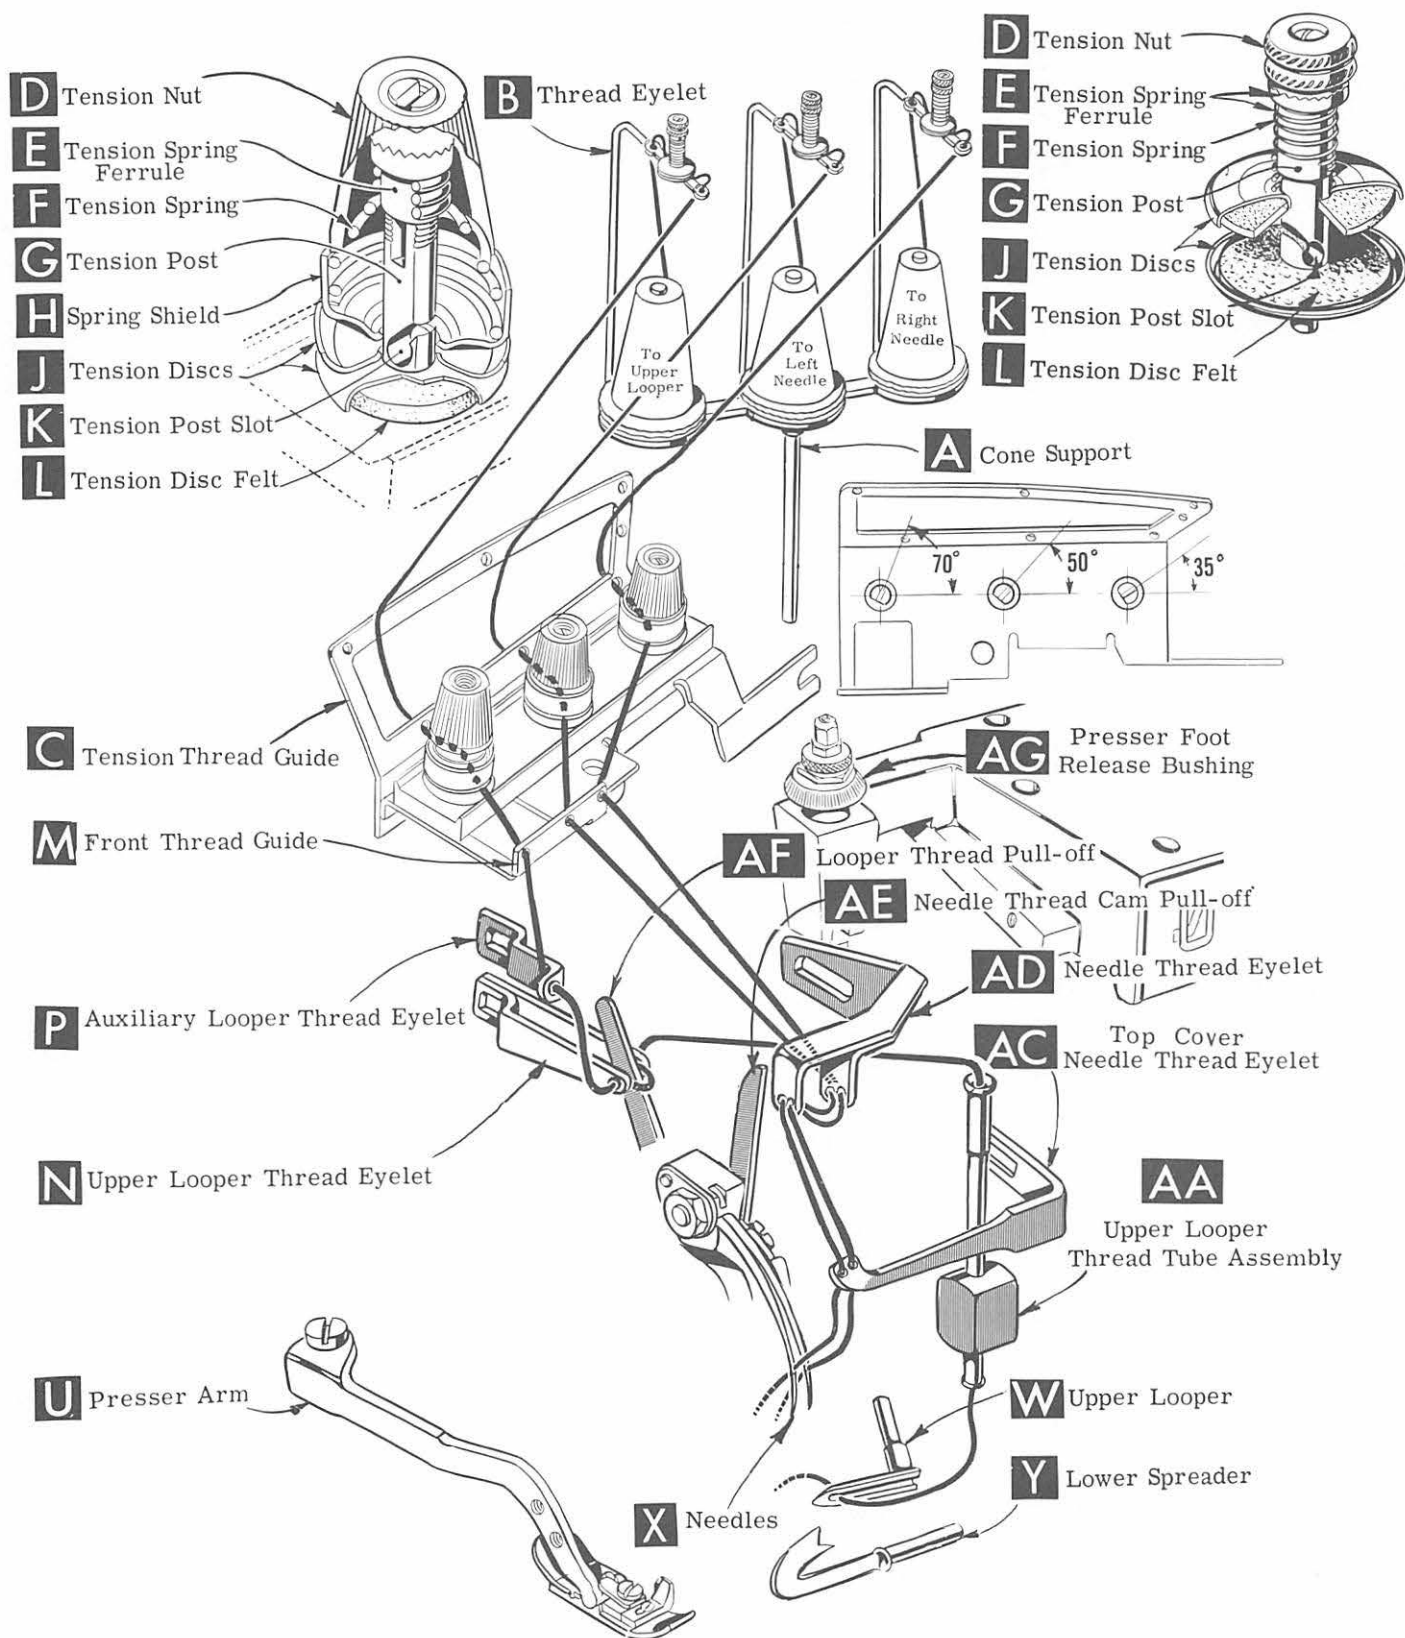
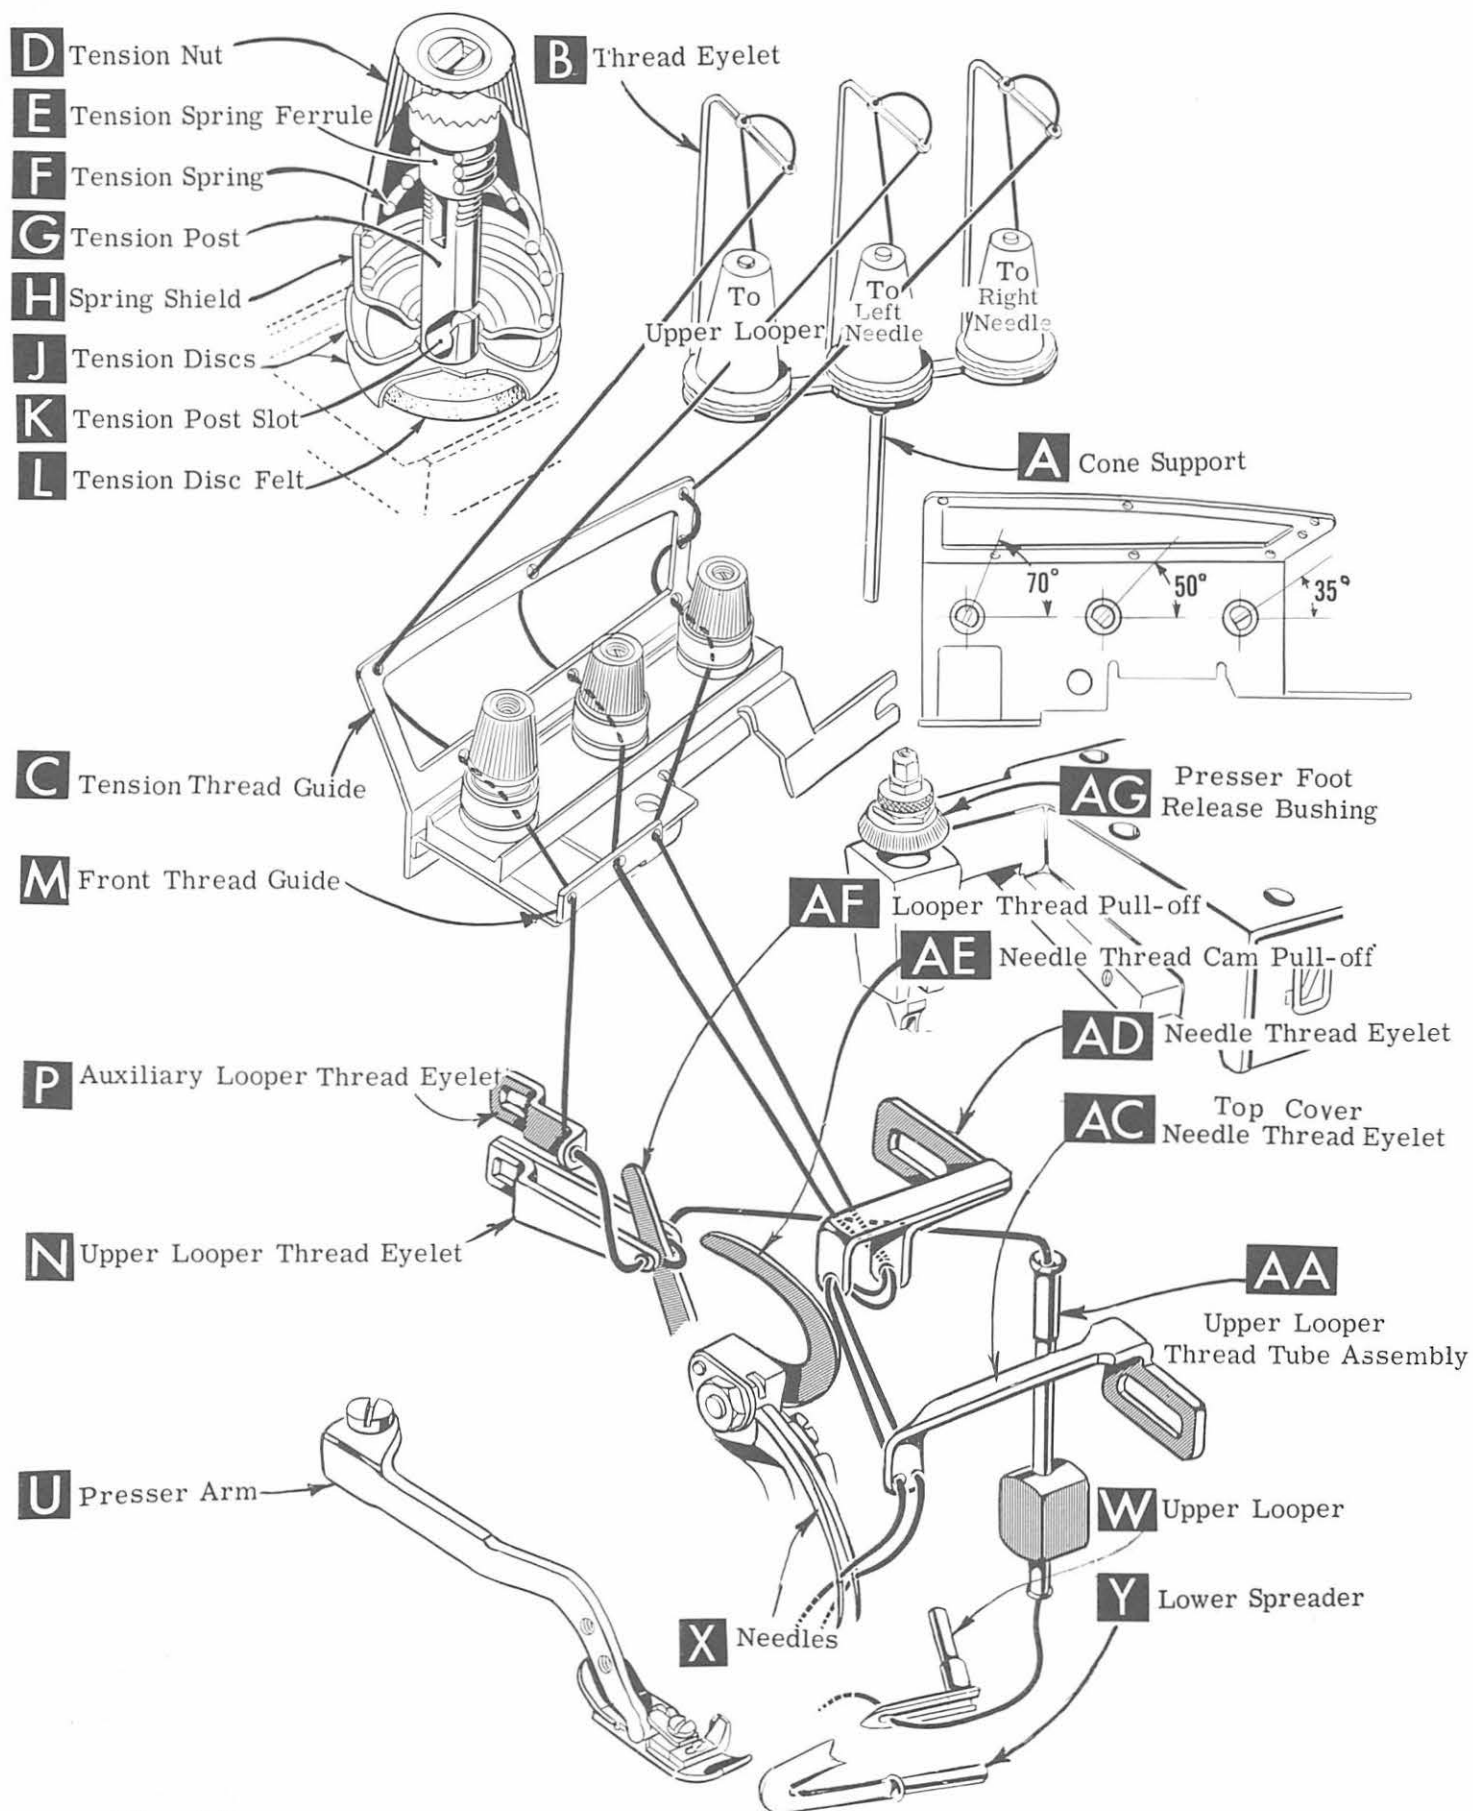

Fig. 1
Fig. 1A
Release pressure on presser foot by turning presser foot release bushing (AG, Fig. 1 or 1A) and swing presser arm (U) out of position. Turn handwheel in operating direction until needles are at their lowest point of travel. Using hexagonal socket wrench No. 21388 AU, furnished with machine, loosen needle clamp nut about 1/4 turn. Again turn handwheel until needles are at high position. Withdraw needle.
After thread comes from cones on cone support (A, Fig. 1) it is brought up through the back hole of thread eyelet (B), then continues between tension disc felts (L), through tension post slot (K) of tension post (G), and down through front hole of thread eyelet.
After thread comes from cones on cone support (A, Fig. 1A) it is brought up through the back hole of thread eyelet (B), then down through the front hole of thread eyelet.
Now, on all styles the upper looper thread and the left needle thread is threaded through the upper holes (left and middle respectively) of tension thread guide (C, Fig. 1 or 1A) from front to back. Then through the lower holes from back to front. The right needle thread is threaded through the tension thread guide (C), first through the upper hole back to front, second through the middle hole front to back and third through the lower hole back to front.
Only parts involved in threading are shown in threading diagrams (Fig. 1 and 1A). Parts are placed in their relative positions for clarity. Refer to Fig. 1 for threading of Style 39500 GB or refer to Fig. 1A for threading of Style 39500 GC-045.
Be sure the threads, as they come from the tension thread guide (C) are between tension discs (J) and in tension post slot (K) in tension post (G). The tension posts should be positioned so the tension post slot will be at the approximate angle for the different threads as indicated in Fig. 1 and 1A.
The amount of tension on the needle and looper threads is regulated by three tension nuts (D, Fig. 1 or 1A). Tension on threads should be only sufficient to secure proper stitch formation.
Be sure machine is threaded according to diagram for your style of machine (either Fig. 1 or Fig. 1A). With thread tensions light, set upper looper thread eyelet (N, Figs. 1 or 1A) about horizontal and back in its front to back location. Operate machine slowly, without presser foot in place, to make sure that chain forms and moves off the tongue freely. Swing presser foot into position, insert material, and sew slowly.
About 60% of needle thread is drawn from cones on needle down stroke. The remaining 40% is drawn on the upstroke. With needle at bottom of stroke, position needle thread eyelet (AD, Fig. 1A) so that needle thread cam pull-off (AE) just contacts needle thread.
Usually, all needle thread is drawn on needle down stroke. At top of needle stroke, thread should be just tight enough to feed chain off stitch tongue. Needle threads tend to pull down slightly if excessive thread is pulled on the up stroke. With needles at bottom of stroke, position needle thread eyelet (AD, Fig. 1) so that the needle thread pull-off (AE) draws the proper amount of needle thread to satisfy the above conditions.
During needle down stroke, forward stroke of looper thread pull-off (AF, Fig. 1 or Fig. 1A) will draw upper looper thread through the tension. When normal amount of looper thread is drawn, upper looper thread will have almost all slack taken up as looper thread pull-off reaches its most rearward position.
If upper looper thread has a loose appearance in the seam, move the upper looper thread eyelet (N, Fig. 1A) forward and raise slightly. If, however, the eyelet is raised too high and moved too far forward, the looper thread will tend to break excessively--even with a minimum amount of looper thread tension applied.
If upper looper thread has loose appearance in the seam, move the upper looper thread eyelet (N, Fig. 1) forward slightly. If, however, the eyelet is too far forward, the looper thread will tend to break excessively--even with a minimum amount of looper thread tension applied.
Raising and bringing the upper looper thread eyelet (N, Fig. 1A) forward causes less thread to be pulled from the cones as the looper travels to the top of its stroke and causes the purl to form more on the top of the edge. If the eyelet is raised and brought too far forward, however, the thread becomes too tight, resulting in looper thread breakage. With a reasonable amount of looper thread tension to insure a flexible chain, the looper thread eyelet should be adjusted to position the purl as desired.
Moving the needle thread eyelet (AD, Fig. 1) back causes less thread to be pulled from the cones as the needles travel to the top of their stroke and causes the purl to form more on the top of the edge. If the eyelet is moved back too far, however, the threads become slack at the top of the stroke and the chain will not feed off the throat plate tongue. With a reasonable minimum needle thread tension to insure uniformity, the needle thread eyelet should be adjusted to position the purl as desired.